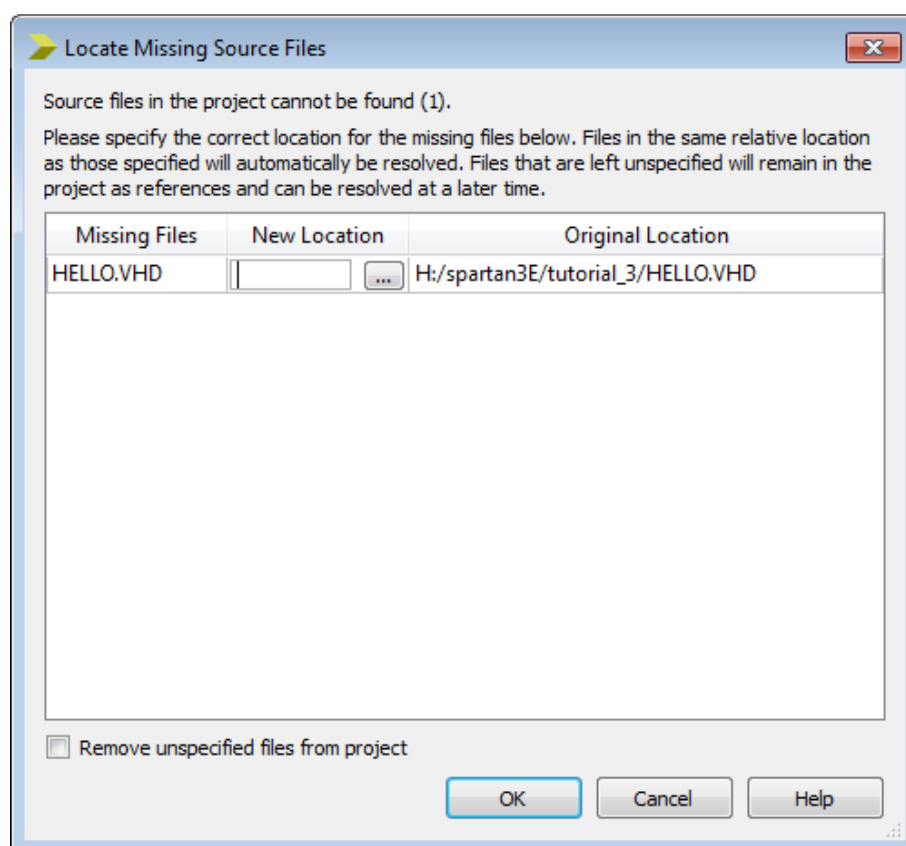

Figure 7.5: Locate Missing Source Files window.
1. Return to Project Navigator. The new **hello.vhd** will be automatically loaded. If you click on the Project Navigator window before KCPSM3 has finished running, the **Locate Missing Source Files** window shown in Figure 7.5 will appear. Simply click **Cancel** after KCPSM3 has finished running, and the new **hello.vhd** will be automatically loaded.
The Spartan-3E board after downloading the program is shown in Figure 7.5. The LCD screen displays the words “Hello World” followed by the customised characters, on the first and second line. Also, corresponding LEDs will be lit when slider switches are in the ON position or push buttons are pressed.